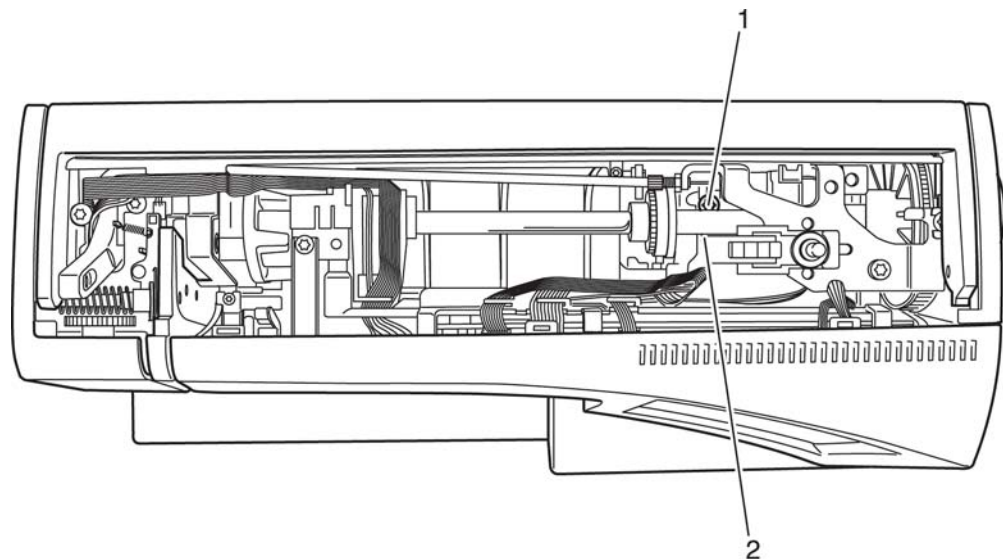

Fig. 1
- Loosen screw 1 (fig. 1).
- The belt must move 1 to 3 mm forwards (fig. 1).